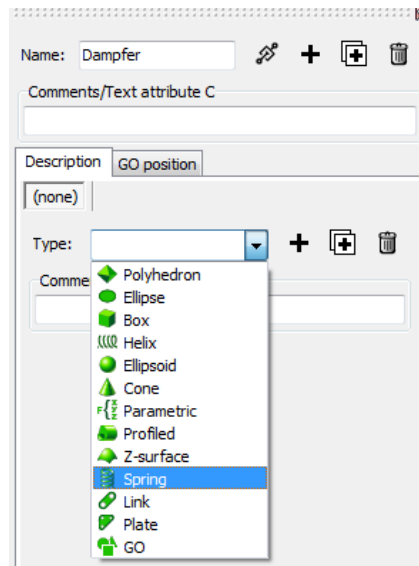

Figure 2.36.
6. Select **Spring** type in the pull-down menu (Figure 2.36).